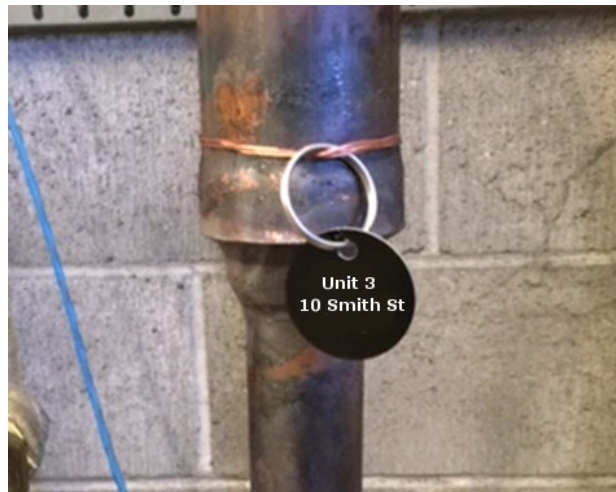

Figure 1: Multiple Fitting Line Tag Example
- Dual and or multiple occupancy premises require each fitting line or service to be tagged with the unit or house and or street number engraved on metal badge and fixed to the fitting line or service by a permanent means; plastic zip-ties are not approved. Refer Figure 1: Multiple Fitting Line Tag Example.